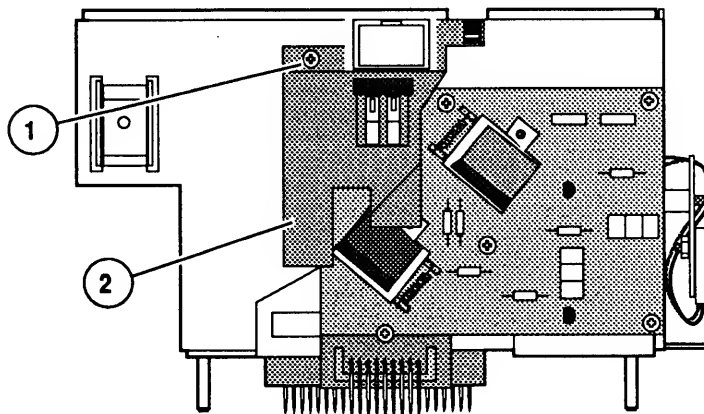

FIGURE 37
3. Remove the six Phillips screws (Figure 37, #1) that secure the distribution PCA (Figure 37, #2) to the DC power supply. Remove the distribution PCA.